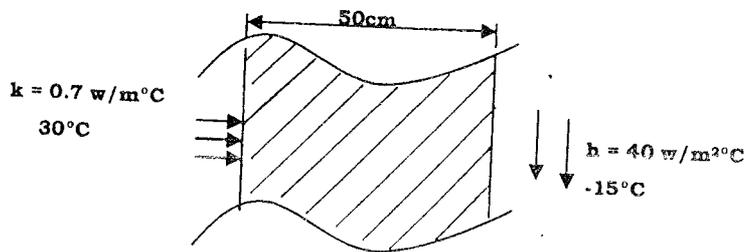

Figure 1
- (ii) A brick wall of thickness 50 cm, $k = 0.7 \text{ w/m}^\circ\text{C}$ as shown in figure 1 inner surface is at 30°C and the outer surface is exposed to cold -15°C . The heat transfer coefficient associated with the outer surface $h = 40 \text{ w/m}^2 \text{ }^\circ\text{C}$. Determine the steady state temperature distribution with in the wall.